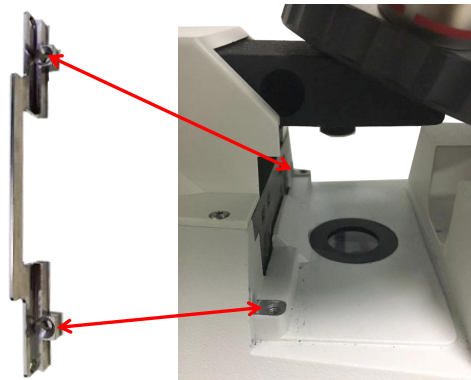

Figure 02
2. Take out the fixed metal plate of the fluorescent module, place it in the installation area of TS100 microscope module after disassembly, and fix it with fixing screws (as shown in Fig. 02).